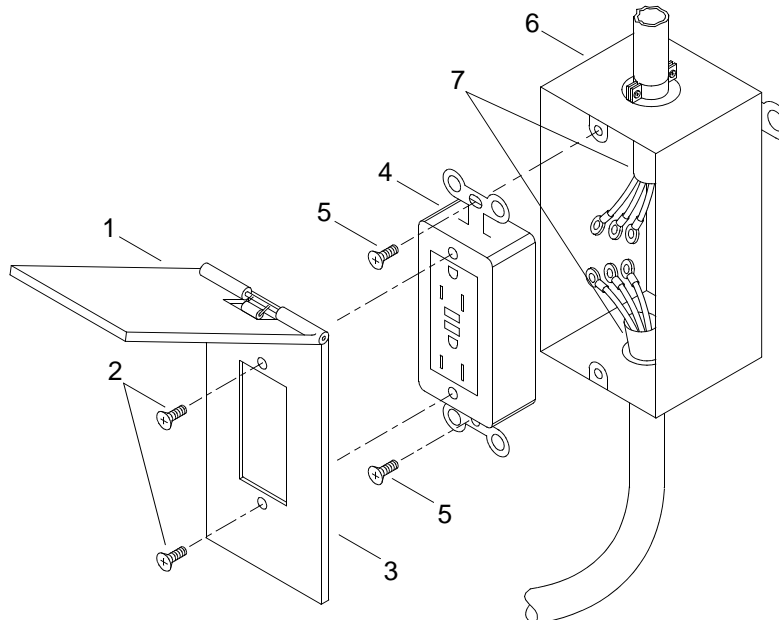

Figure 2. Ground Fault Circuit Interrupter Receptacle
2. Lift weather cover (figure 2, item 1).
3. Remove two screws (figure 2, item 2) securing receptacle cover (figure 2, item 3) to receptacle (figure 2, item 4).
4. Remove two screws (figure 2, item 5) securing receptacle (figure 2, item 4) to receptacle box (figure 2, item 6).
5. Label and disconnect wiring (figure 2, item 7) from receptacle (figure 2, item 4).
6. Discard receptacle (figure 2, item 4).
7. Connect wiring (figure 2, item 7) to new receptacle (figure 2, item 4) and remove labels.
8. Install two screws (figure 2, item 5) to secure receptacle (figure 2, item 4) to receptacle box (figure 2, item 6).
Tighten screws (figure 2, item 5).
9. Install two screws (figure 2, item 2) to secure receptacle cover (figure 2, item 3) to receptacle (figure 2, item 4).
Tighten screws (figure 2, item 2).